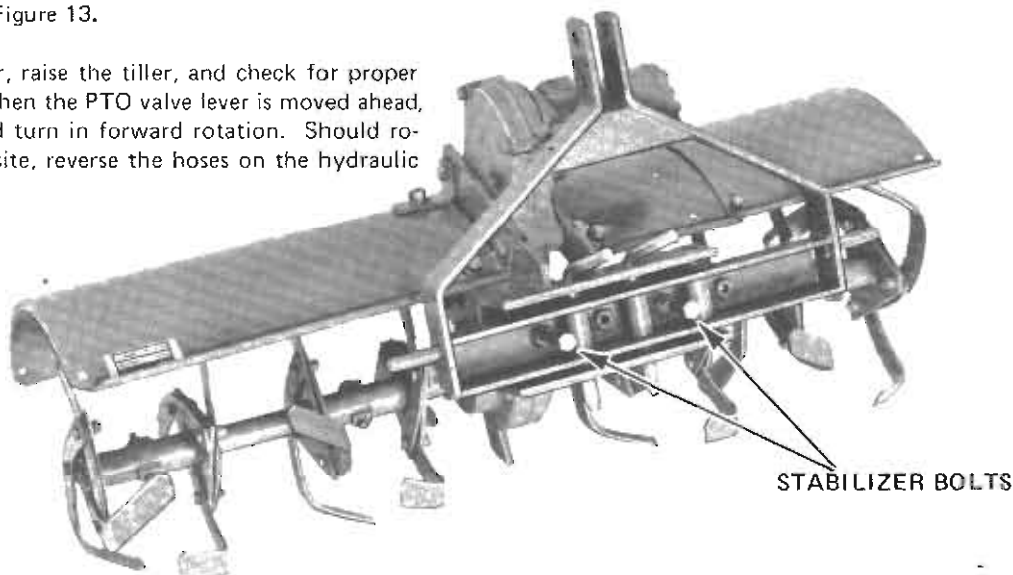

FIGURE 14 TILLER AND F-27 SLEEVE ADAPTER SHOW MOUNTED OFFSET 3 INCHES TO THE RIGHT.
3. Tighten the two stabilizer bolts through the hitch and against the tiller mounting bracket. See Figure 14.